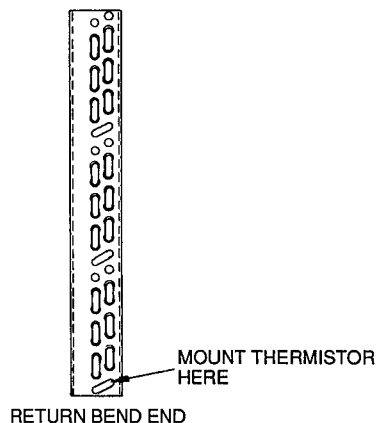

Fig. 16 — Thermistor Location
1. A thermistor and a thermistor connection cord with a lead length of 20 ft are shipped with the 619B(E) unit. Run the connection cord from the low voltage plug on the control board in the fan coil unit to the condensing unit. The stripped end of the connection cord goes to the fan coil end. Use care to route the wires so that they will not be damaged, and do not run them near power wires. Attach the thermistor to the outdoor coil with the wiretie provided, and plug the thermistor into the connection cable. The thermistor should be located as shown in Fig. 16 on the return bend.
1. Two thermistors and 2 thermistor connection cords with a lead length of 20 ft are shipped with the 619B(W) unit. Run both of these from the low voltage plug on the control board in the fan coil unit to the heat pump. Use care to route the wires so that they will not be damaged, and do not run them near power wires. Attach one thermistor to the inlet grille with the wire tie provided. Be sure to route the wires away from the fan and secure adequately. Attach the second thermistor to the outdoor coil with the wire tie provided. The thermistor should be located as shown in Fig. 16 on the return bend.